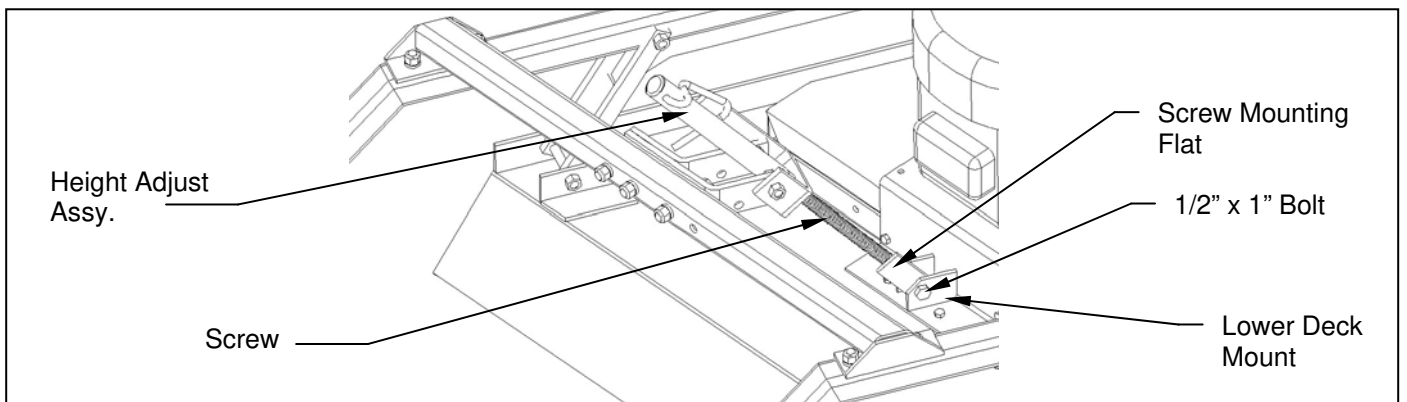

Figure 4: Height Adjust Assy. Installation
3. Remove the 1/2" x 1" bolt and lock nut from the lower deck mount. Manually turn the screw down towards the deck until the screw mounting flat hole lines up with the lower deck mount hole. After achieving alignment, attach the screw mounting flat with the 1/2" x 1" hex head bolt and secure the bolt with the provided lock nut. Do not over-tighten. This location must be able to pivot. **See figure 4.**